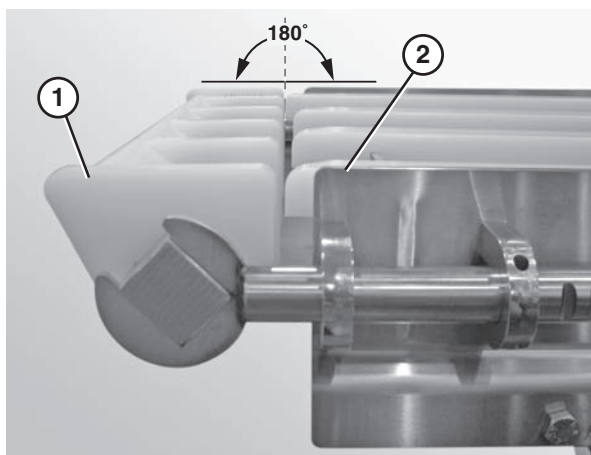

Figure 23
3. Ensure that the nose bar pucks (**Figure 23, item 1**) are in line with the conveyor frame (**Figure 23, item 2**).